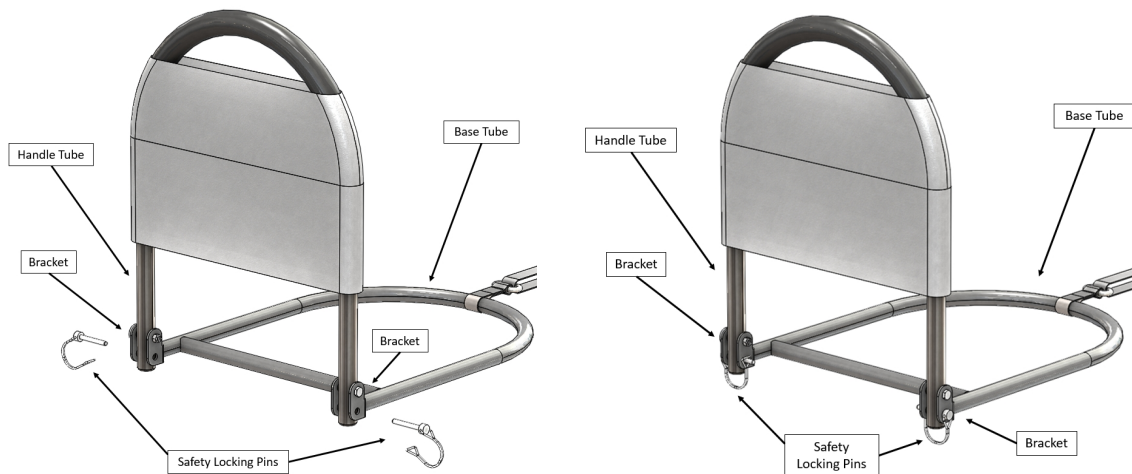

Figure 2
2. Rotate Handle Tube into upright position that is 90 degrees from Base Tube as shown in Figure 2.
3. Align holes at the base of Handle Tube with the holes in Bracket as shown in Figure 2.
4. Re-Insert the Safety Lock Pins into the aligned holes in order to secure Handle Tube in the bed rail user position as shown in Figure 2.